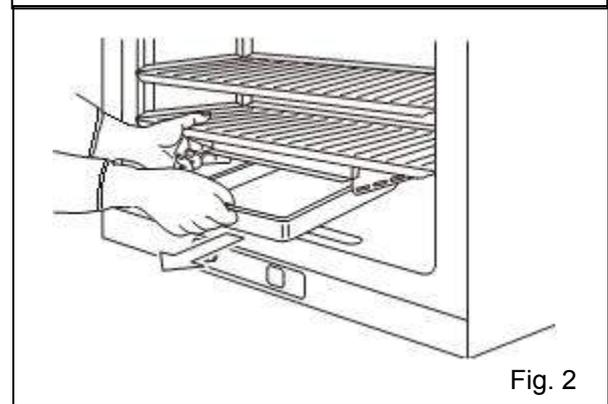

Fig. 2
Be careful to keep the diluted detergent or water out of the temperature sensor, the CO₂ gas injection hole, the inner sample air access port, the fan motor shaft bearing, and the inner sample air outlet (Fig.2 ←). Also, do not wash the temperature sensor, the water level sensor and UV lamp using detergent. Doing so may cause failure. (Fig. 2)
3. Lift the front of the tray supports and pull them out. (Fig. 2)
3. To install the rear duct, confirm 4 pins are securely installed in the 4 holes of rear duct. (Fig. 2)
2. Pull the humidifying pan forward. (Fig. 2)